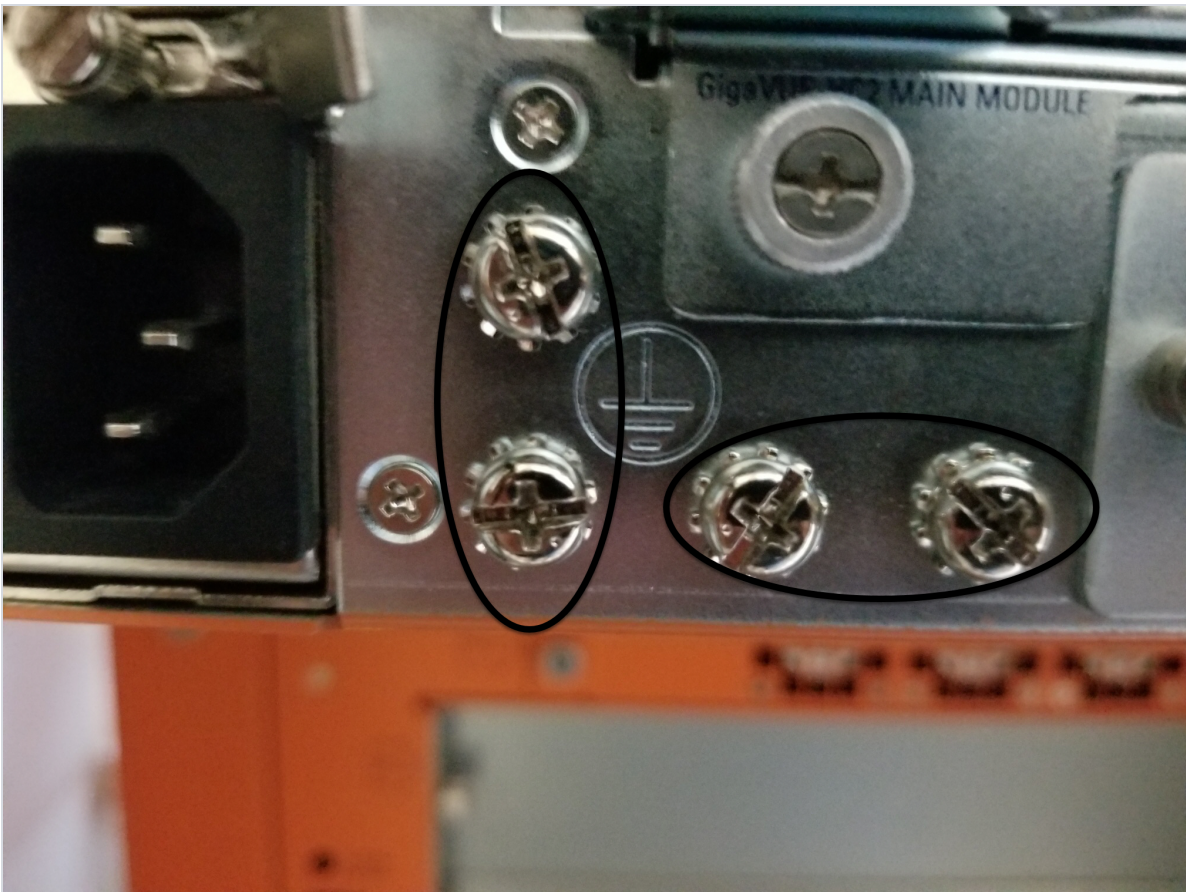

Figure 1: Grounding Points for Ground Screws (GigaVUE-HC2 Shown)
1. Locate the grounding points near the bottom left corner at the rear of the chassis to the right of the power plug. There are two pairs of grounding points as shown in Figure 1: Grounding Points for Ground Screws \(GigaVUE-HC2 Shown\) on page 50.